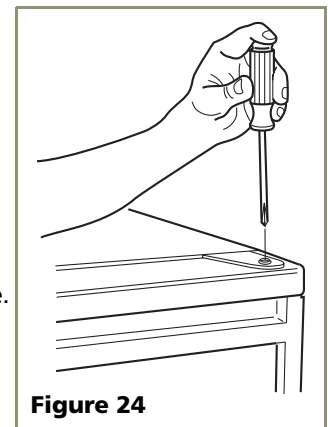

Figure 24
- Remove top hinge screw pin (Phillips screwdriver, see **Figure 24**). Remove door by tilting forward and lifting off bottom hinge pin.